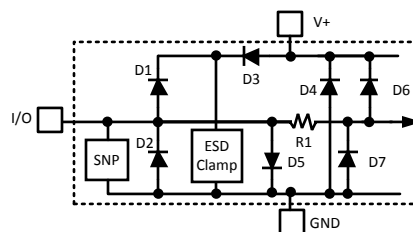

Figure 3. ESD Protection Input Structure
- (1) Absolute Maximum Ratings indicate limits beyond which damage to the device may occur. DC and AC electrical specifications do not apply when operating the device beyond its rated operating conditions.
- (2) When the input voltage (V_I) at any pin exceeds the power supplies ($V_I < GND$ or $V_I > V_{DD}$), the current at that pin should be limited to 5 mA. Parasitic components and or ESD protection circuitry are shown in Figure 3 below for the LM95221's pins. The nominal breakdown voltage of D4 is 6.5 V. Care should be taken not to forward bias the parasitic diode, D1, present on pins: D1+, D2+, D1-, D2-. Doing so by more than 50 mV may corrupt the temperature measurements.
- (3) See the URL "<http://www.ti.com/packaging/>" for other recommendations and methods of soldering surface mount devices.
- (4) Human body model, 100pF discharged through a 1.5kΩ resistor. Machine model, 200pF discharged directly into each pin.